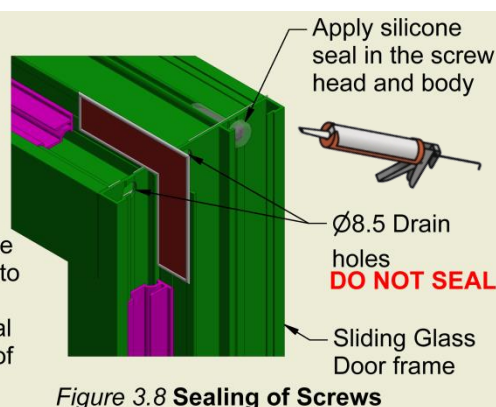

Figure 3.8 Sealing of Screws
e) Apply silicone seal in all fasteners as shown in **Figure 3.8**.